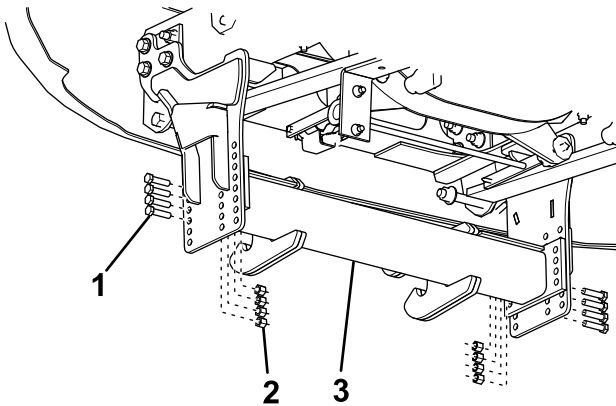

Figure 3
- For model LTA16245, loosely secure the front of the pushbeam to the sideplates using 4 bolts (1/2 x 2 inches) and locknuts (Figure 3).